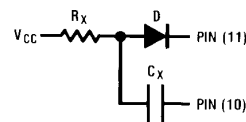

FIGURE 2
4. If  $C_X$  is an electrolytic capacitor a switching diode is often required for standard TTL one-shots to prevent high inverse leakage current (*Figure 2*).